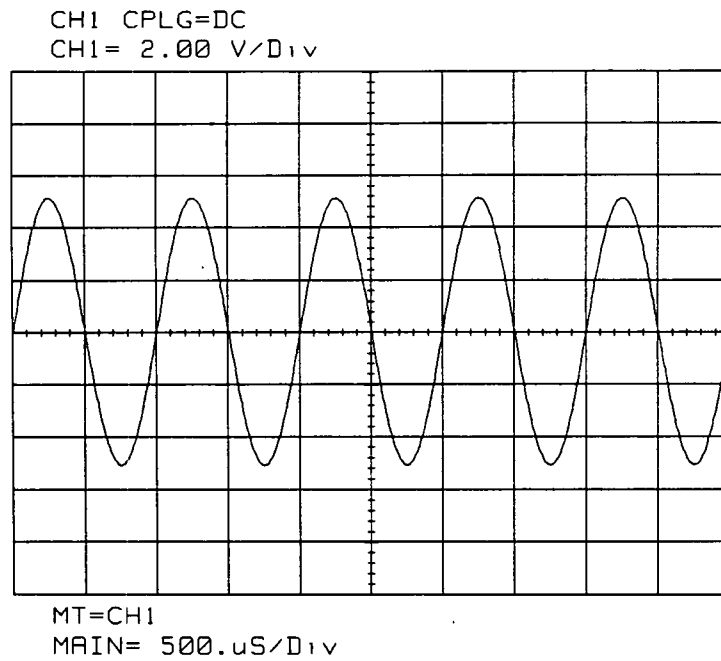

Figure 7-10. SYNC 2 Test Sine Wave
8. Refer to figure 7-10 to verify the correct result.